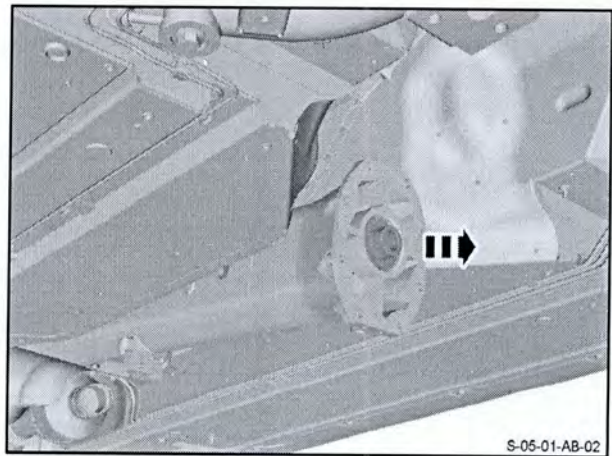

Figure 27
- 51. Carefully remove the propeller shaft from the torque tube (refer to Figure 27).